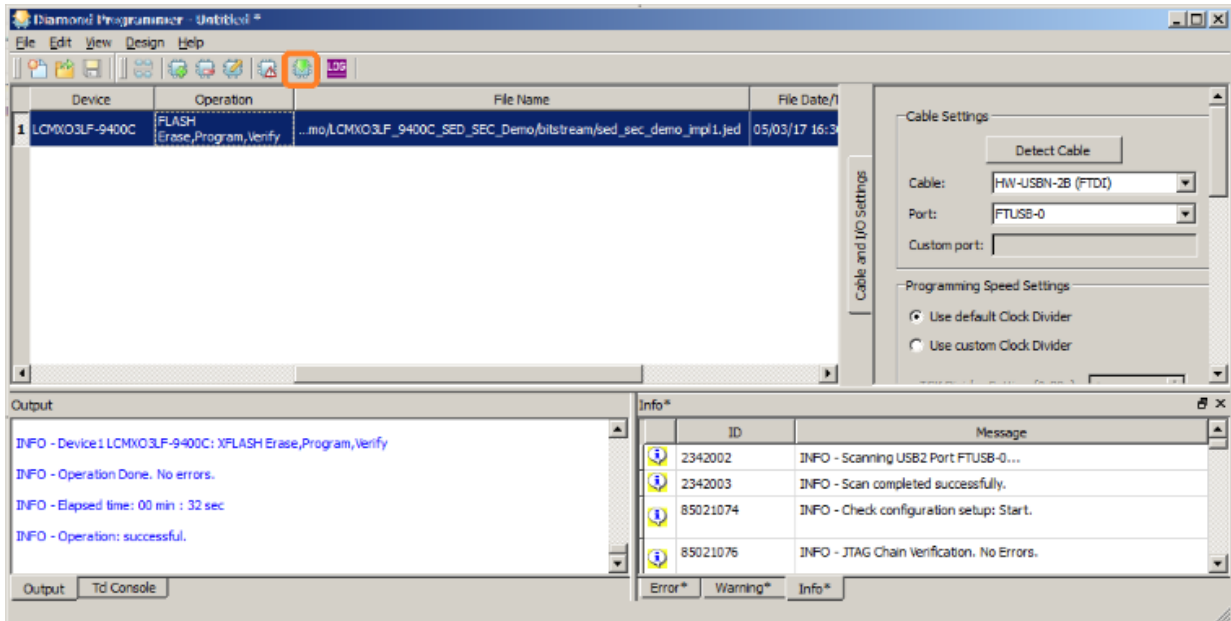

Figure 6.4. Starting Programming Operation
6. Click the **Program** button as shown in Figure 6.4.